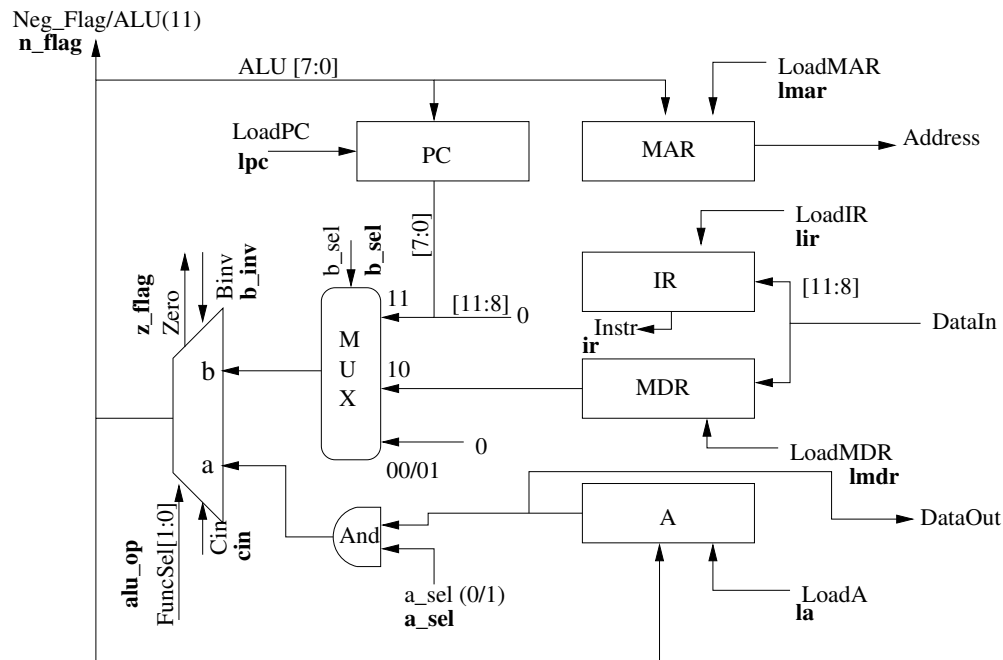

Figure 1: Simple 12 Datapath, with Control Signals
- Refamiliarize yourself with the S12 datapath, and the signal names relevant to the control logic which are in **bold** (see Fig. 1).